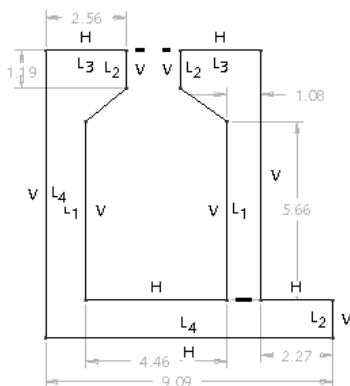

Figure 2-29 Sketch with weak dimensions and constraints
- b. Draw the sketch by using the **Line Chain** tool, refer to Figure 2-29.
7. Select the vertex that is joining the lines L and M. Now, select the vertex that is joining the lines G and H. Both the vertices are aligned horizontally, as shown in Figure 2-29.